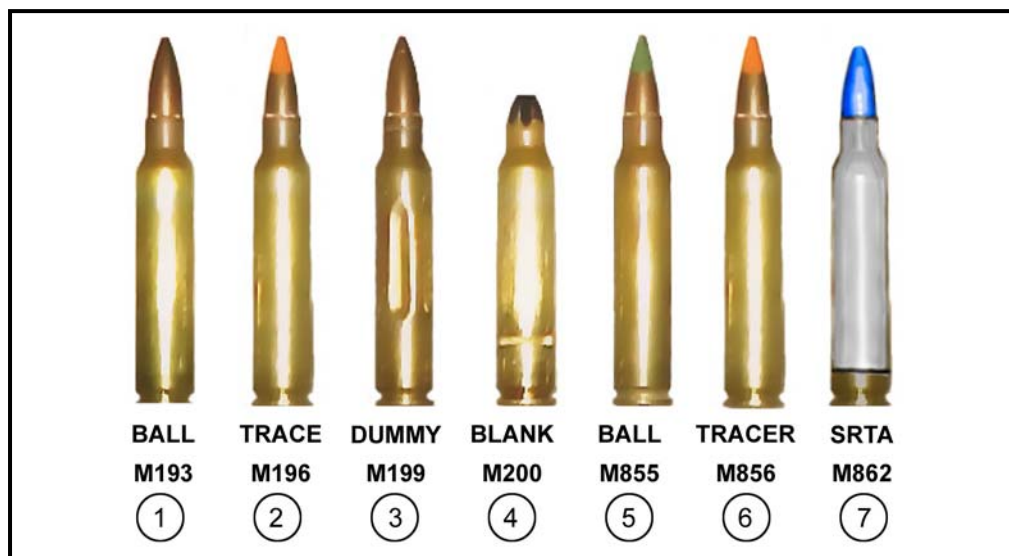
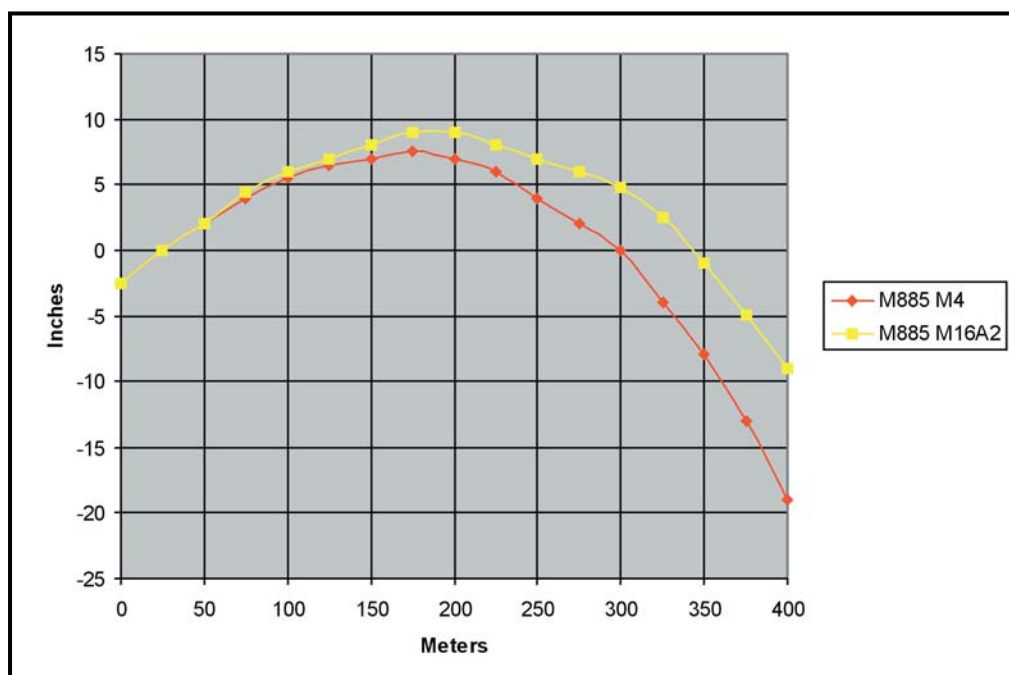

Figure 2-42. Ammunition, 5.56-mm for the M16- and M4-series weapons.
Figure 2-43. M855 drop during 25-meter zeroing (M16A2 at 8/3+1; M4 at 6/3).
This paragraph provides information on different types of standard military ammunition used in the M16-/M4-series weapons (Figure 2-42, page 2-29). Use only authorized ammunition manufactured to U.S. and NATO specifications. (Figures 2-43 through 2-47 [pages 2-29 through 2-31] show ammunition trajectory data.)
a. **Cartridge, 5.56-mm, Ball, M193.** The M193 cartridge is a center-fire cartridge with a 55-grain, gilded metal-jacketed, lead alloy core bullet. The M193 round is the standard cartridge for field use with the M16A1 rifle and has no identifying marks (1, Figure 2-42, page 2-29).
b. **Cartridge, 5.56-mm, Tracer, M196.** (Used in the M16A1 rifle) The M196 cartridge has a red or orange painted tip (2, Figure 2-42, page 2-29). Its main uses are for observation of fire, incendiary effect, and signaling. Soldiers should avoid long-term use of 100 percent tracer rounds, which could cause deposits of incendiary material, or chemical compounds that could damage the barrel. Therefore, when tracer rounds are fired, they are mixed with ball ammunition in a ratio of no greater than one-to-one with a preferred ratio of three or four ball rounds to one tracer round.
c. **Cartridge, 5.56-mm, Dummy, M199.** (Used in all rifles.) The M199 dummy cartridge is used during dry firing and other training (3, Figure 2-42). This cartridge can be identified by the six grooves along the sides of the case beginning about 1/2 inch from its tip. It contains no propellant or primer. The primer well is open to prevent damage to the firing pin.
d. **Cartridge, 5.56-mm, Blank, M200.** (Used in all rifles.) The M200 blank cartridge has no projectile. The case mouth is closed with a seven-petal rosette crimp and shows a violet tip (4, Figure 2-42).
e. **Cartridge, 5.56-mm, Ball, M855.** (Used in the M16A2/3/4 and M4-series weapons.) The M855 cartridge has a 62-grain, gilded metal-jacketed, lead alloy core bullet with a steel penetrator. The primer and case are waterproof. This round is also linked and used in the M249. It has a green tip (5, Figure 2-42). This ammunition should not be used in the M16A1 except under emergency conditions, and only at targets less than 90 meters in distance. (The twist of the M16A1 rifling is not sufficient to stabilize the heavier projectile of the round).
f. **Cartridge, 5.56-mm, Tracer, M856.** (Used in the M16A2/3/4 and M4-series weapons.) The M856 tracer cartridge has characteristics similar to the M196 tracer with a slightly longer tracer burnout distance. This cartridge has a 63.7-grain bullet. The M856 does not have a steel penetrator. It has a red tip (orange when linked 4 to 1 for the M249) (6, Figure 2-42). This ammunition should not be used in the M16A1 except under emergency conditions, and only at targets less than 90 meters in distance. (The twist of the M16A1 rifling is not sufficient to stabilize the projectile of the heavier ammunition).
g. **Cartridge, 5.56-mm Short-Range Training Ammunition (SRTA), M862.** (Used in all rifles.) The M862 SRTA (7, Figure 2-42) is designed exclusively for training. It can be used in lieu of service ammunition on indoor ranges and by units that have a limited range fan that does not allow the firing of service ammunition. SRTA ammunition must be used with the M2 training bolt.
(1) Although SRTA closely replicates the trajectory and characteristics of service ammunition out to 25 meters, it should not be used to set battle sight zero of weapons to fire service ammunition. The settings that are placed on the sights for SRTA could be different for service ammunition.
(2) If adequate range facilities are not available for sustainment training, SRTA can be used for any firing exercise of 25 meters or less. This includes the 25-meter scaled silhouette, 25-meter alternate qualification course, and quick-fire training. SRTA can also be used for Urban Operations training. (See Appendix A for use of SRTA in training.)